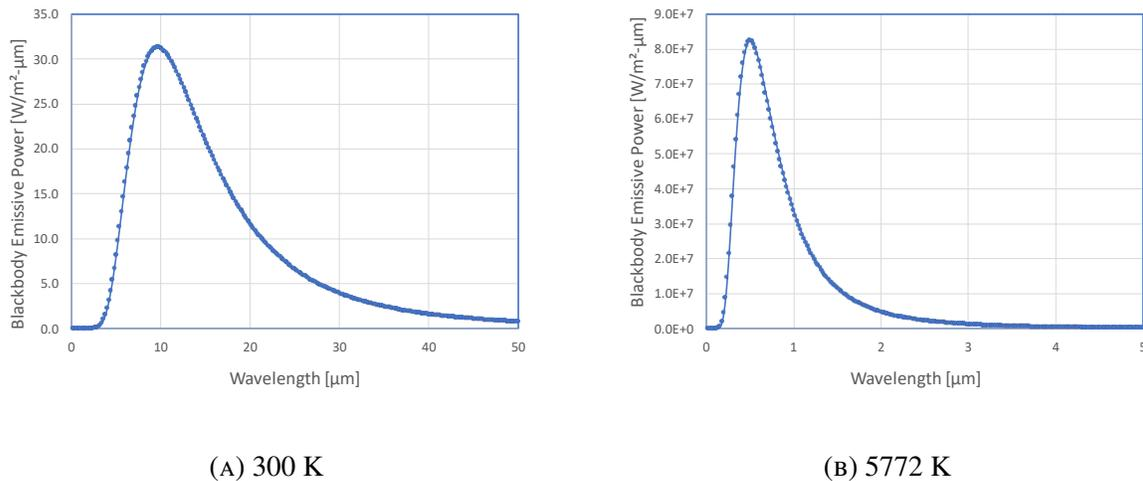

FIGURE 1. Plots of Planck's law at two temperatures
- b) The plotting and integration can be done in various ways depending upon what software is used. The results in Fig. 1 are from an Excel spreadsheet with a step size of 0.2  $\mu\text{m}$  at 300 K and of 0.02  $\mu\text{m}$  at 5772 K.